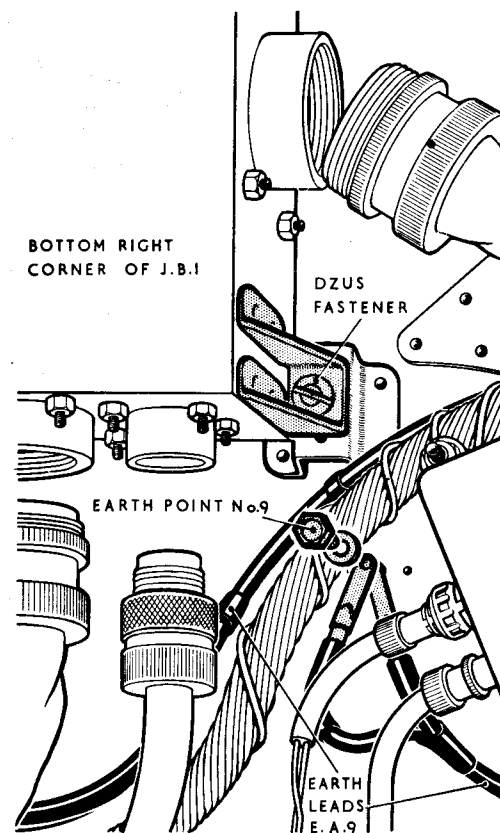

Fig.1 J.B.1 lower attachments and earth point 9
earth point 9 located adjacent to the lower right hand corner of J.B.1. (fig.1).
- (4) Disconnect all the plugs and sockets on the cable assemblies at J.B.1. Seal off the plugs and sockets with approved caps and covers and stow the cable assemblies away from the box.
- (5) Release the two Dzus fasteners at the lower corners of the box (fig.1) and lift the box upwards to disengage the two top mountings.
- (6) Lower the box and remove it from the aircraft, complete with earth lead EA9.